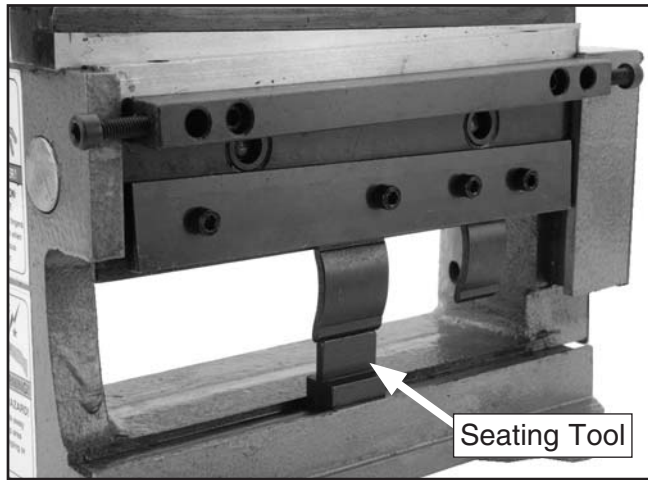

Figure 10. Seating fingers.
8. Place the finger seating tool into the finger receiver seat (**Figure 10**) and use the work lever to lower and slightly preload the finger against the seating tool to seat the finger.